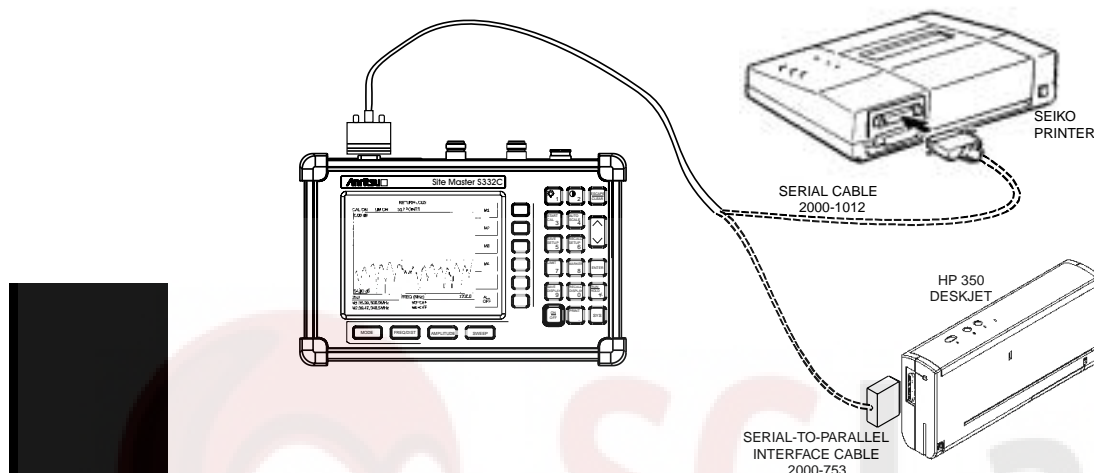

Figure 3-4-. Site Master Printer Setup
Step 1. Connect the printer as shown in Figure 3-4.